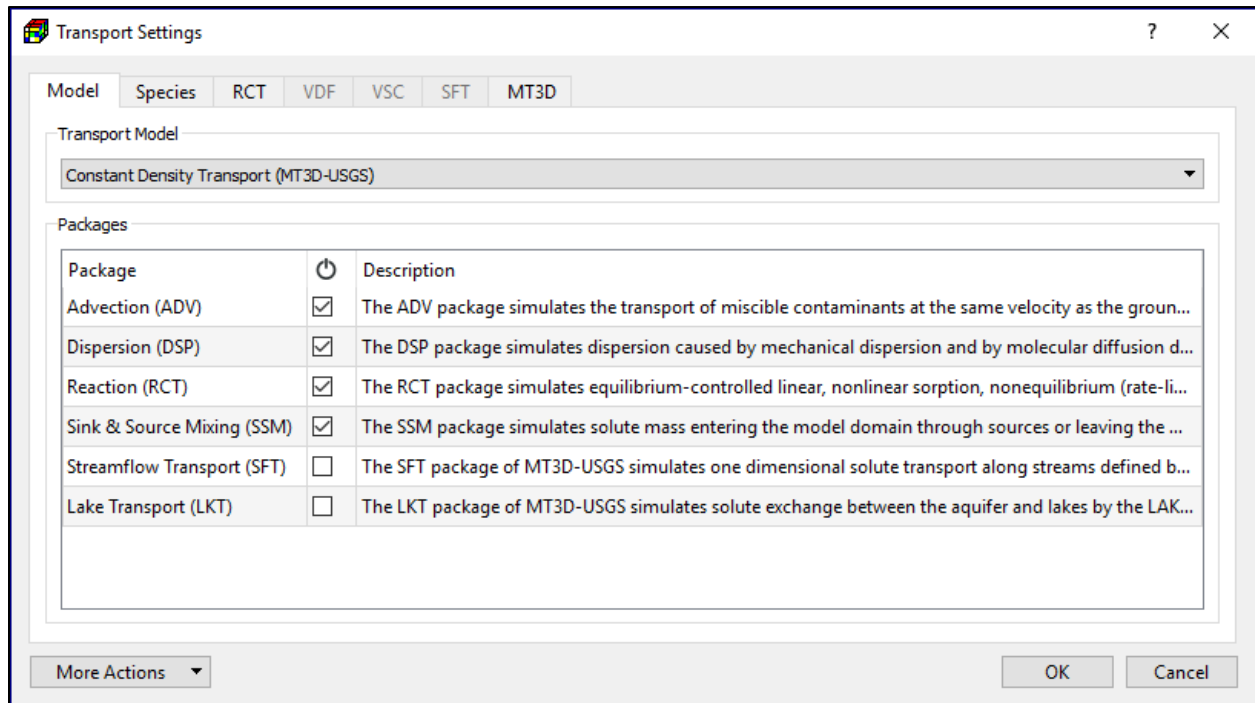

Figure 116. The Model tab of the Transport Settings dialog box
The first step to use MT3D or SEAWAT is to define the species, packages, and the reaction type in the Transport Settings dialog box (Figure 116). The features of this dialog box are detailed below.
- **Import MT3D Model:** Select this option to import a transport model saved in the MT3D-USGS (Bedekar, et al., 2016) or MT3DMS (Zheng, et al., 1999) format. After selecting this option, you will need to (1) select the name file of the MODFLOW model, and then (2) select the name file of the MT3D model. The grid size of the selected MODFLOW and MT3D models must be identical. All packages of MT3D listed in Section 5.3.2.1 may be imported.
2. **Model Tab** (Figure 116) defines the transport model and packages to be used in the simulation.